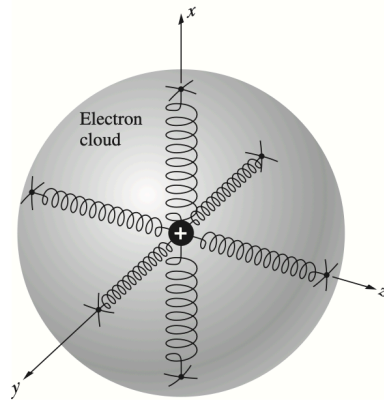

Fig. 1
A birefringent material has interesting properties. For example, many crystalline materials (periodic) are optically anisotropic, meaning that the optical properties change depending on the direction you put an EM wave through it (1, 8.4). Perhaps the atom has (modelled with spring connections) different spring constant strengths in the up-down direction from the left-right direction. Since an EM wave has that electric field component, depending on the direction of the incoming EM wave that EM wave can be refracted differently because the electrons are driven and reradiate differently. We can here say that it is *dependent on the P-state* of the EM wave, ie its polarisation (1). This spring model is modelled in Fig. 1. We can effectively say that birefringent materials have a polarisation-state dependent refractive index.